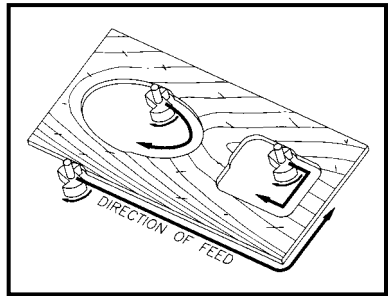

Fig. 6
Since the cutter rotates clockwise (when viewing router from top), move the router from left to right to obtain a more efficient cutting. (Fig. 6).
**⚠ WARNING: Avoid “Climb-Cutting”** (cutting in direction opposite that shown in Fig. 6). “Climb-Cutting” increases the chance for loss of control resulting in possible personal injury. When “Climb-Cutting” is required (backing around a corner), exercise extreme caution to maintain control of the router.